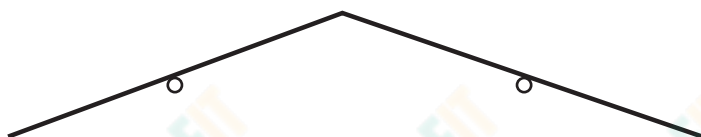

Fig. 1.3
- (d) For values of x less than $\frac{L}{2}$, the wire shape inverts as shown in Fig. 1.3.